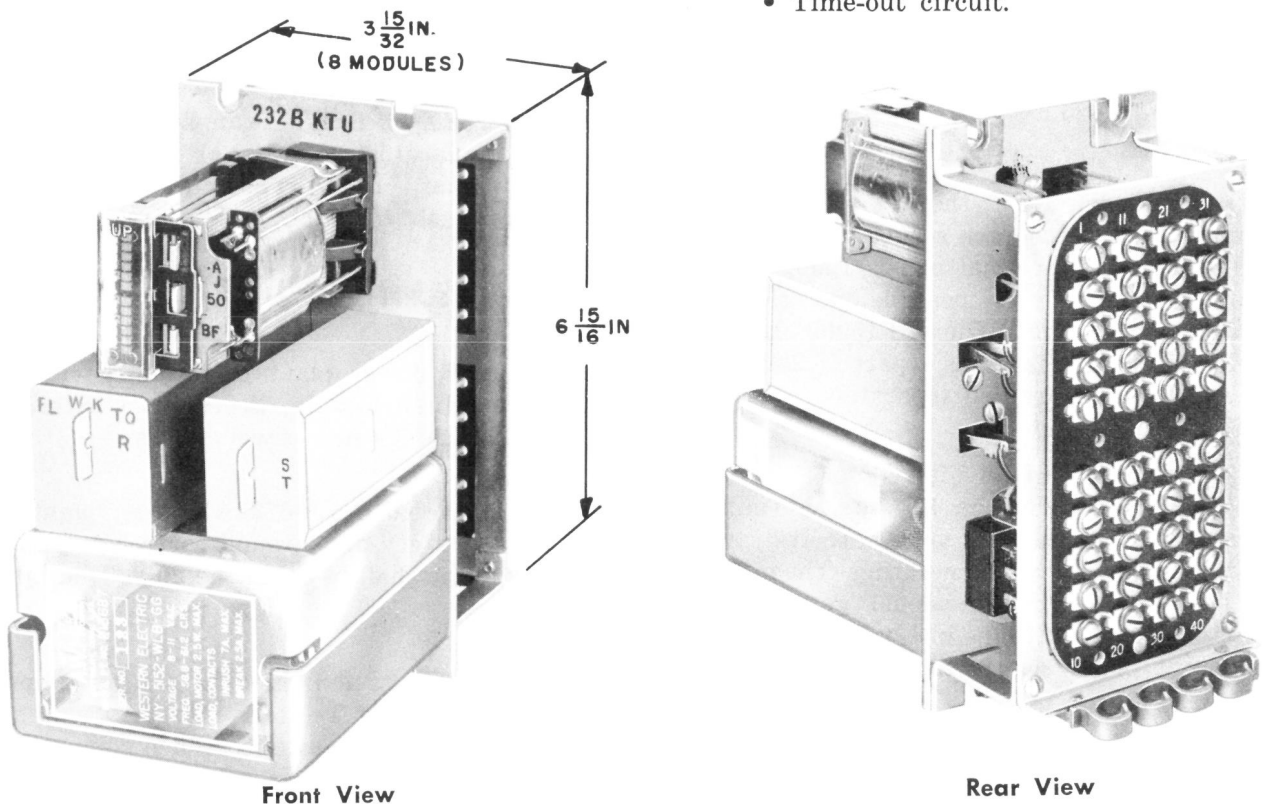

Fig. 1 — 232B Key Telephone Unit
1.01 This section covers identification, connections, and maintenance of 232A and B KTU. Fig. 1 shows front and rear views of 232B KTU.